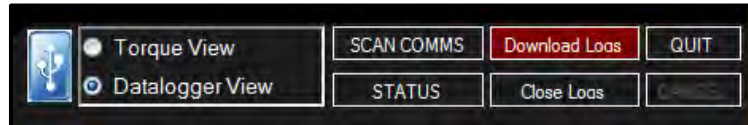

Figure 5.3-1: Download Logs Button
1. Press the "Download Logs" button on the Main Screen (Figure 5.3-1).